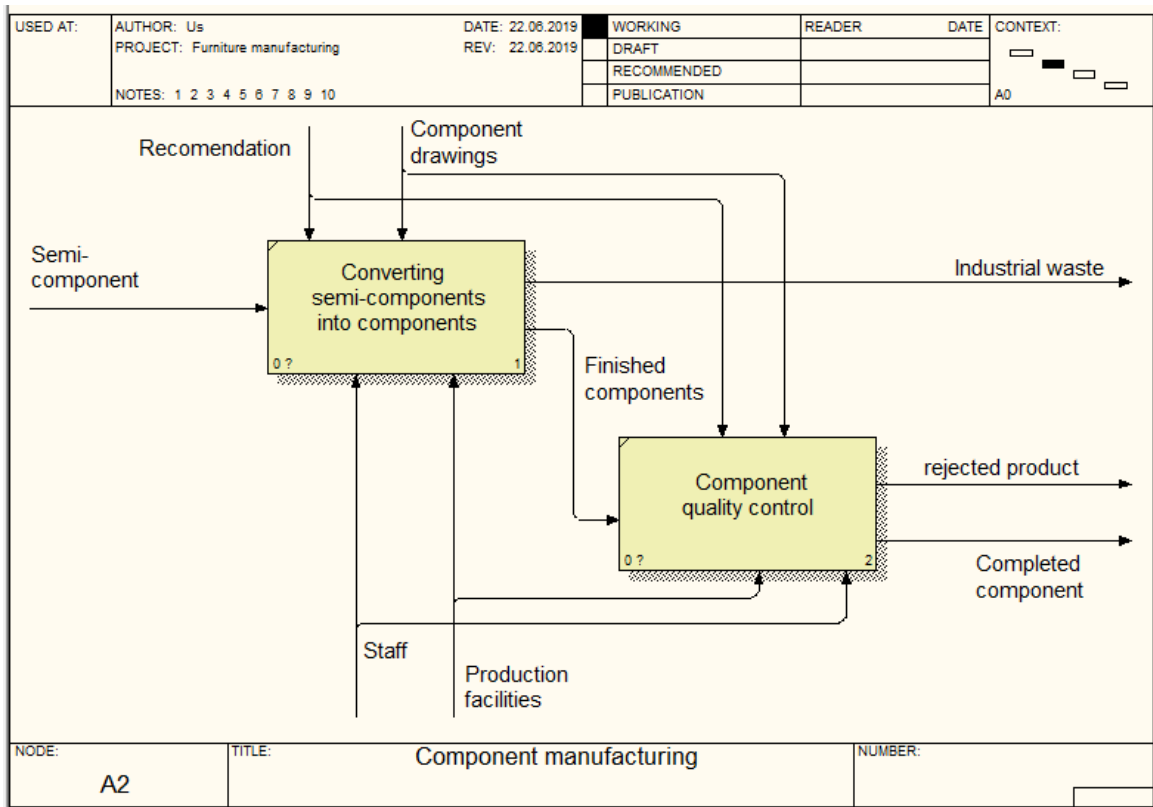

Fig. 3.5. Component Manufacturing process detailing
8. Check your work (fig. 3.5).